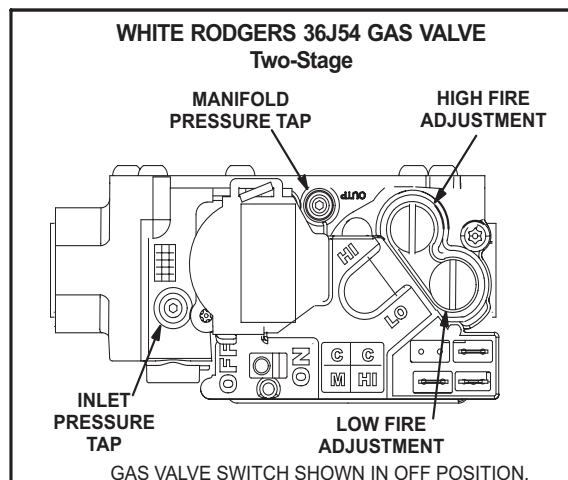
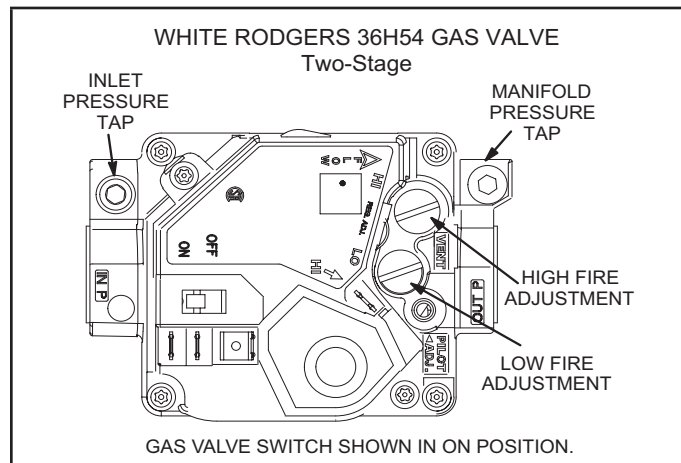
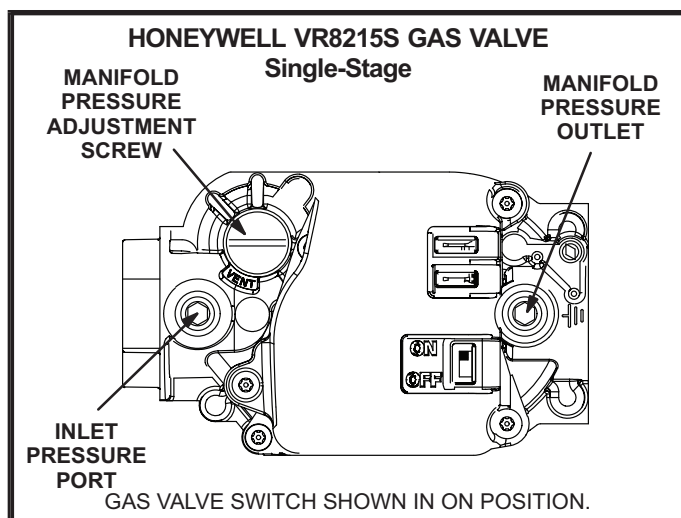

FIGURE 1
FIGURE 2
FIGURE 3
- 5 - Turn gas valve switch to **OFF**. See Figure 1, Figure 2 or Figure 3.
- 6 - Wait five (5) minutes to clear out any gas. If you then smell gas, **STOP!** Immediately call your gas supplier from a neighbor's phone. Follow the gas supplier's instructions. If you do not smell gas, go to the next step.
- 7 - Turn gas valve switch to **ON**. See Figure 1, Figure 2 or Figure 3.
Manifold pressures are shown in TABLE 2. Refer to Figure 1 or Figure 2 to locate pressure ports.